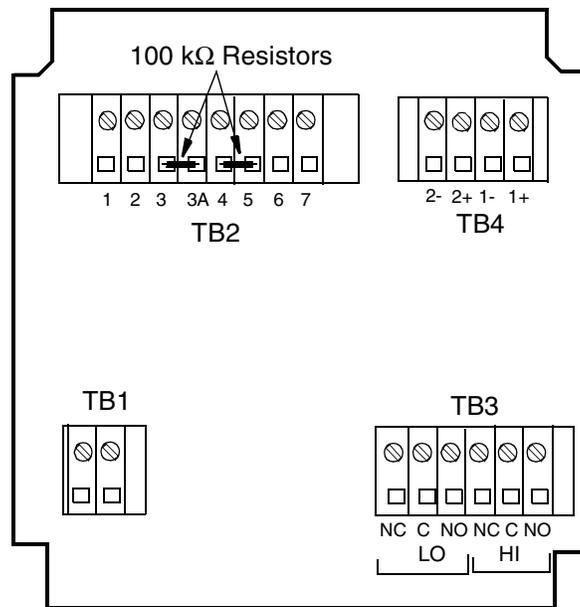

Figure 23. Temperature Simulation (NEMA 4X Version Shown)
*NOTE: The 871CC Sensor types A through F use a 100 K $\Omega$  thermistor for automatic temperature compensation. The 871CC Sensors K through M use a 100  $\Omega$  RTD for automatic temperature compensation and are recommended for all measurements at elevated temperatures. Connect a 110  $\Omega$  or 100 K $\Omega$  resistor as applicable across terminals 3 and 3A on terminal strip TB2. Refer to Figure 23.*
Connect a 110  $\Omega$  or a 100 k $\Omega$  resistor as applicable across terminals 3 and 3A on terminal TB2. Refer to Figure 23.
Connect a 110  $\Omega$  or 100 k $\Omega$  resistor as applicable across terminals 4 and 5 on terminal strip TB2. Refer to Figure 23.